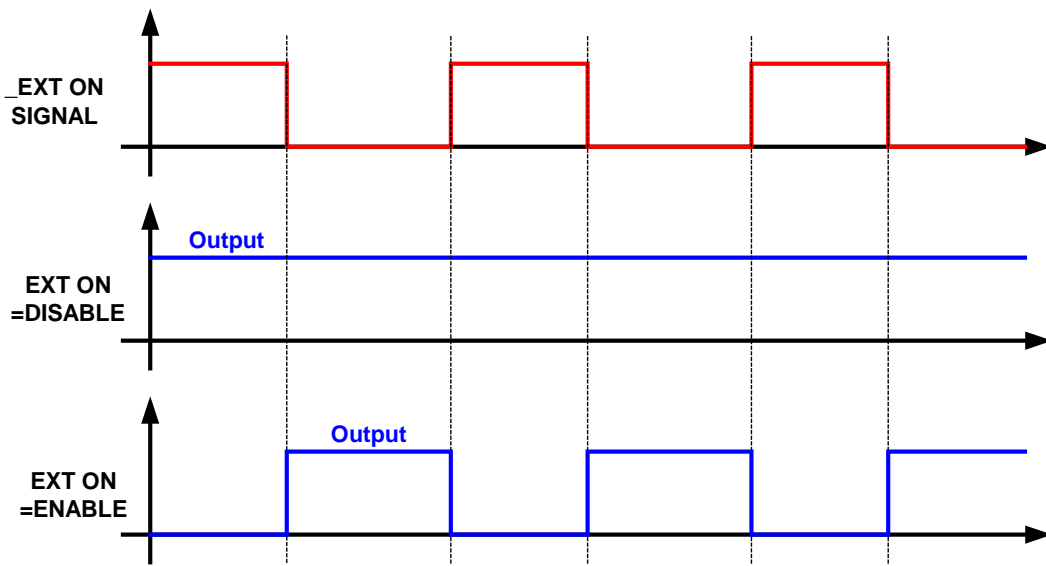

Figure 3-85
3. When the DC power supply is set to OUTPUT = ON, the detail actions of EXTERNAL ON/OFF are as shown in Figure 3-85.